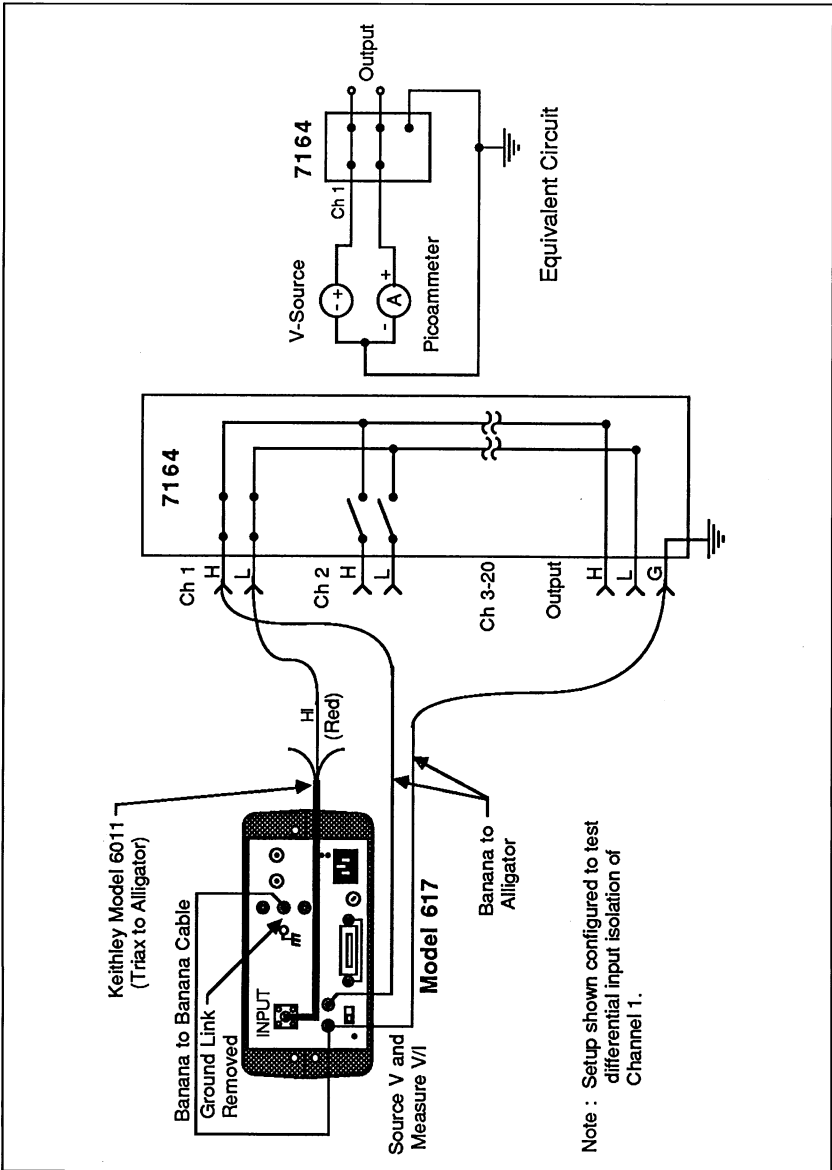

Figure 4-7. Input Isolation (Differential)
Referring to Figure 4-7, perform the following procedure to check differential input isolation:
1. Using Figure 4-3 to identify scanner card terminals, connect the Model 617 to the scanner card as shown in Figure 4-7.
9. Connect the electrometer Input HI lead to channel 2 low (L) of the scanner card, and connect V-Source HI channel 2 high (H).